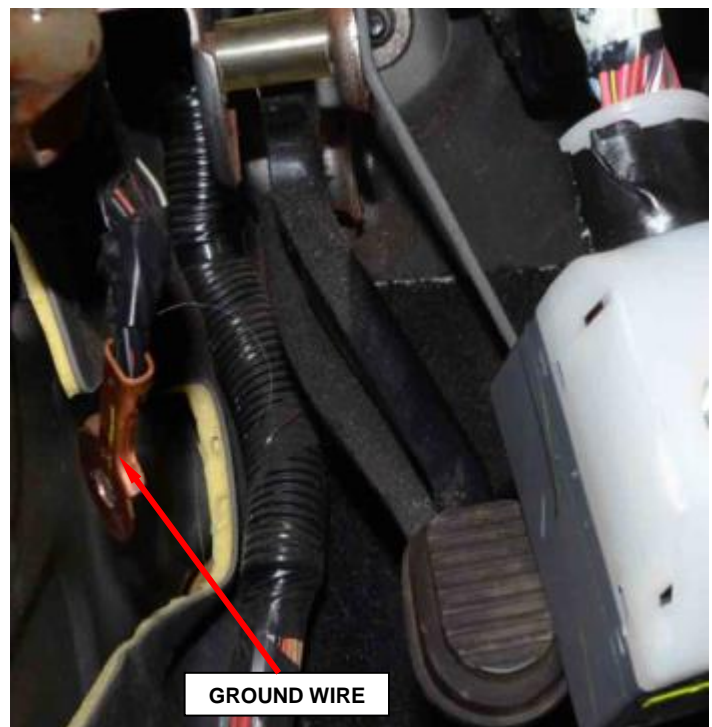

Figure 95 – Bolt and Ground Location
20. Remove the bolt and the ground from the left A-pillar (Figure 95).